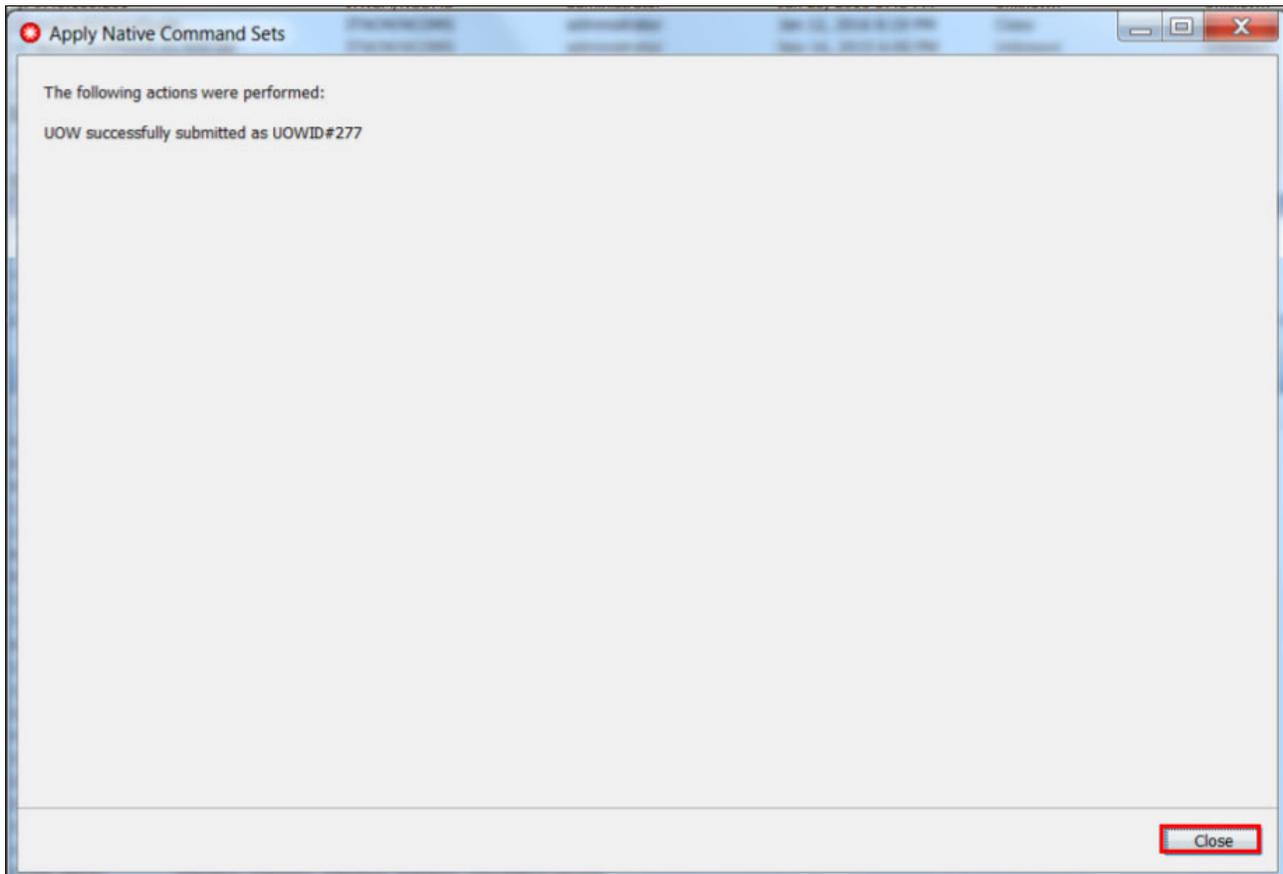

Figure 2-41 Netcool Configuration Manager Command Set applied successfully
16. Brock submits this UoW in the Netcool Configuration Manager. He receives confirmation that it was successfully run, as shown in Figure 2-41.